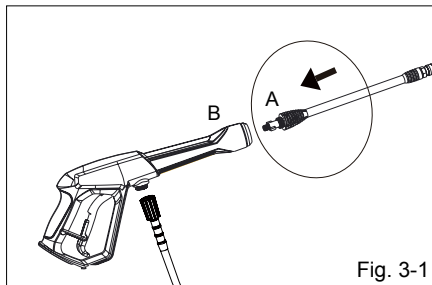

Fig. 3-1
- Insert the male end (A) of the wand into the female bayonet outlet (B) firmly. (See Figure 3-1.)